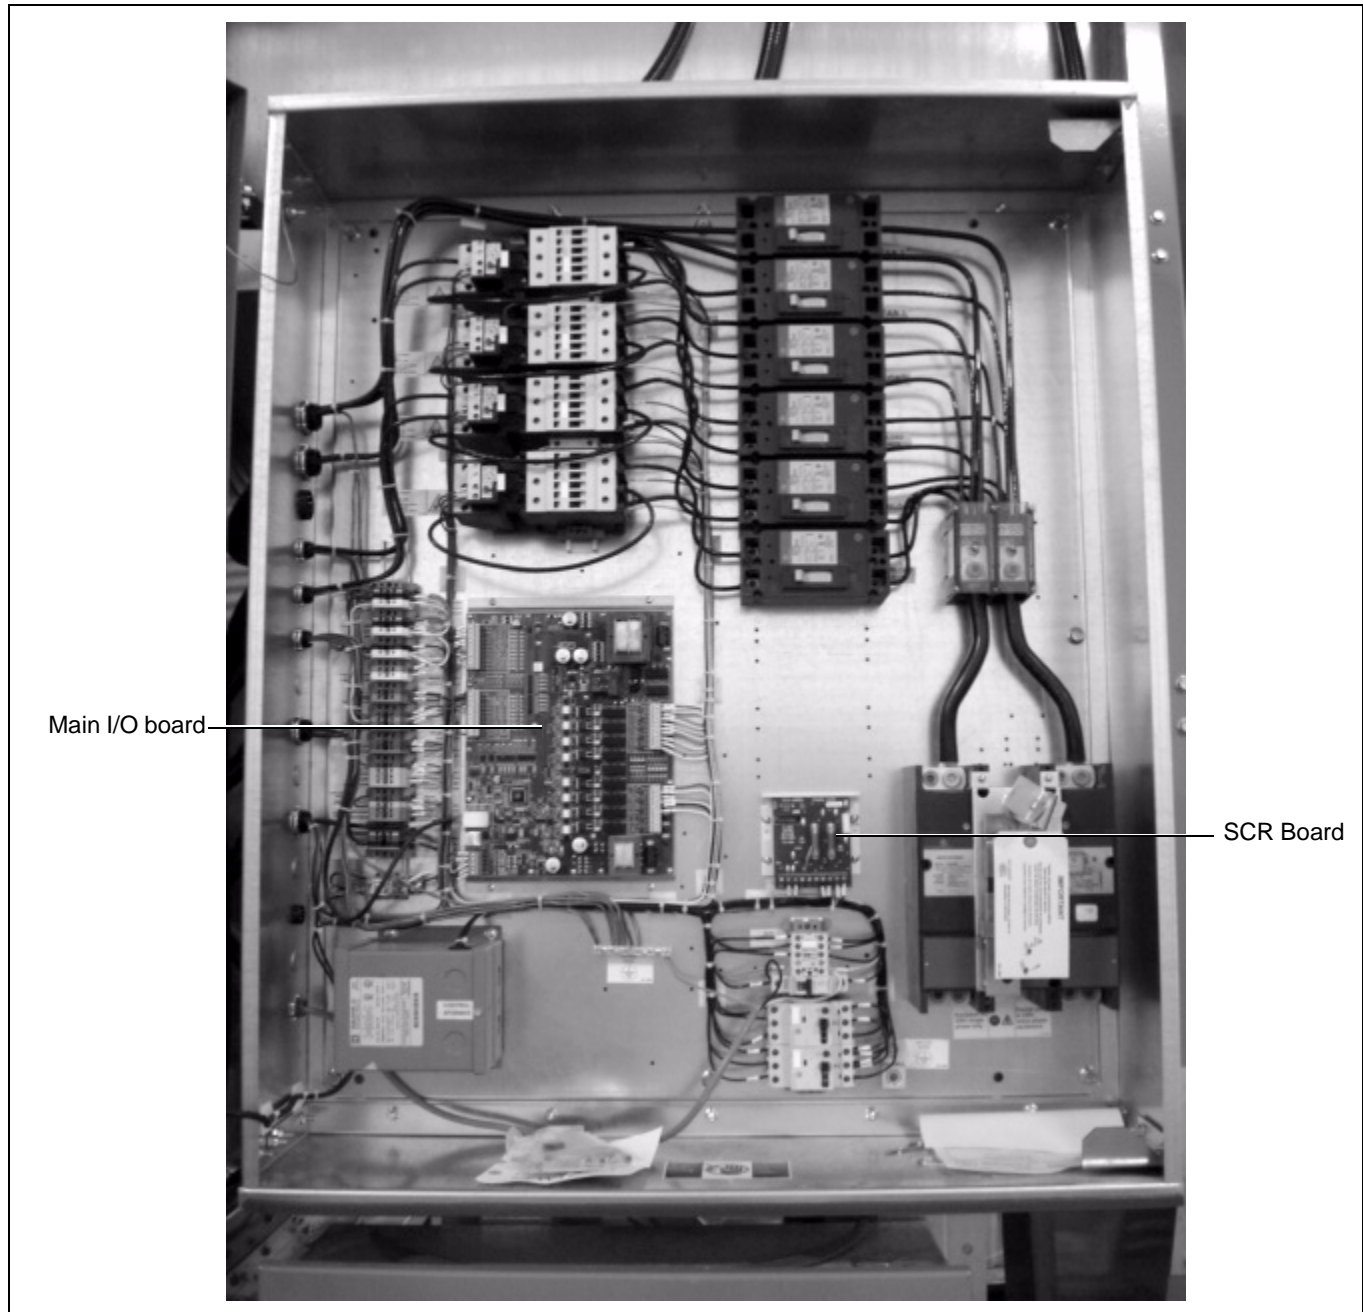
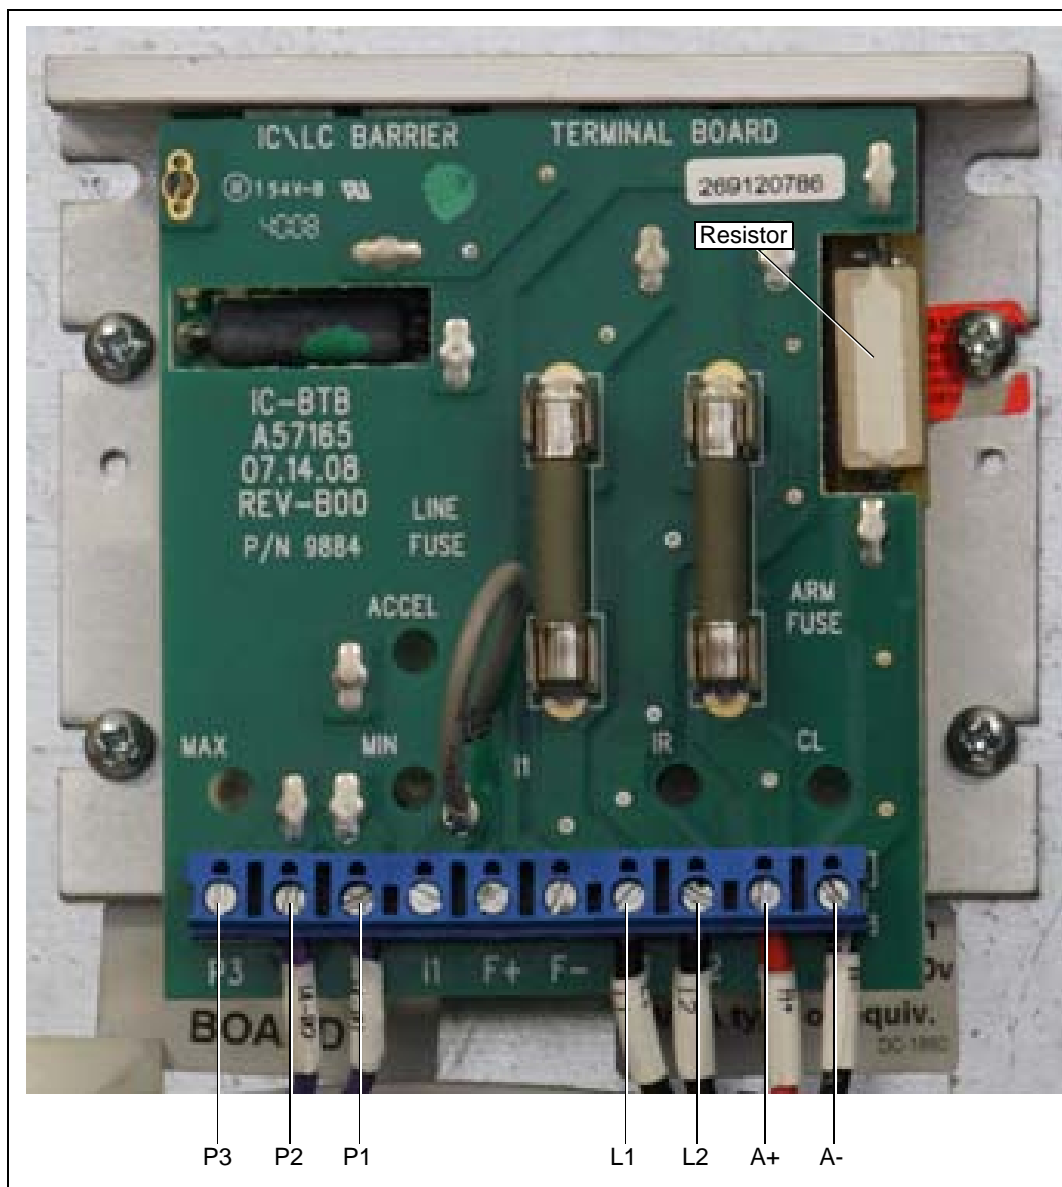
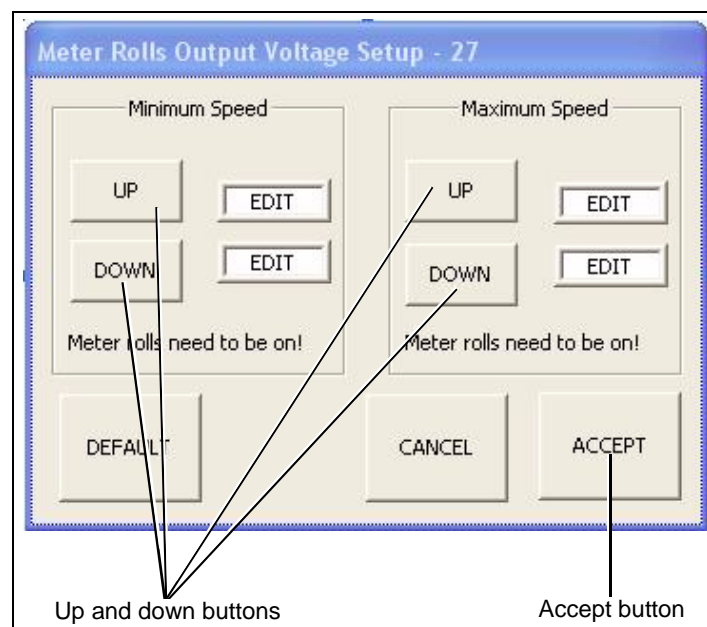

Figure 3A Main I/O Board and SCR Board Locations
Figure 3C SCR Board Terminals
Figure 3J
Terminals L1 and L2 are the input terminals. When the unload system is turned ON, there should be 220 VAC across these terminals. (See Figure 3C.)
IMPORTANT: If installing a new SCR Board, be sure to remove the resistor (shown in Figure 3C below) from the old board and install it in the new board. To do this, pull the resistor out from the 2 pin socket of the old board and install in the same socket on the new board. Pictured below are horsepower resistors. The original components that came with the dryer should remain.
1. Locate the Main I/O Board in the upper control box. For a reference, See Figure 3A on Page 7. Near the bottom of the Main I/O board are two (2) potentiometers labeled **SET MINIMUM** and **SET MAXIMUM**. (See Figure 3D.) Turn both of these potentiometers as far to the right (clockwise) as they will go.
- Use a voltmeter to read DC voltage. Place the red lead on the A+ terminal of the SCR Board and the black lead on the A- terminal. (See Figure 3C on Page 9 for the location of these terminals and Figure 3A on Page 7 for the location of the SCR Board. Touch the Minimum Speed “Up” and “Down” buttons and watch the display on the voltmeter. The voltage reading on the voltmeter should be as close to 9 VDC as possible. Once the voltmeter displays this, touch the “ACCEPT” button. (See Figure 3J.)